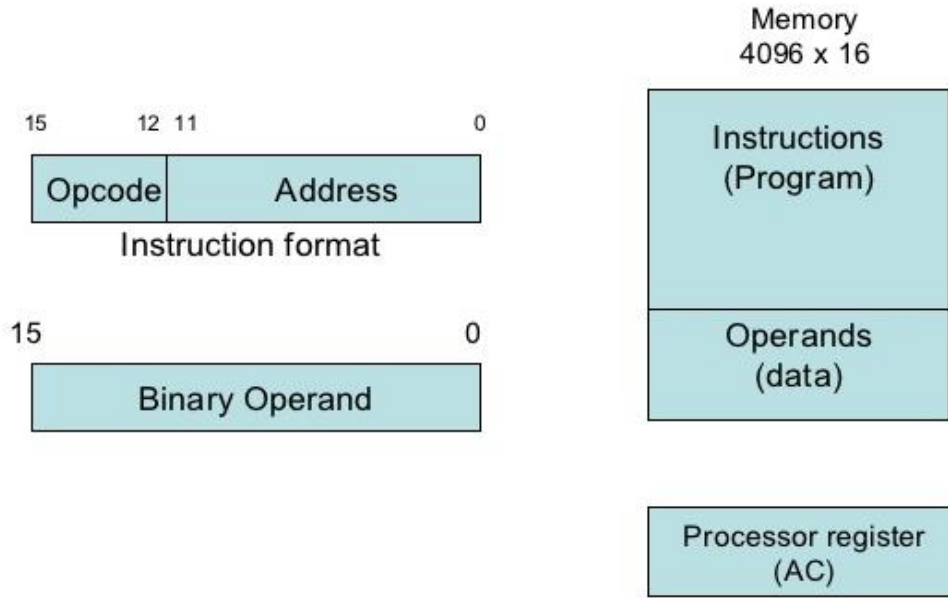

Figure 1-AA: Stored Program Organization
- ❖ **Figure 1-AA** depicts this type of Instructions are stored in one section of memory and data in another.